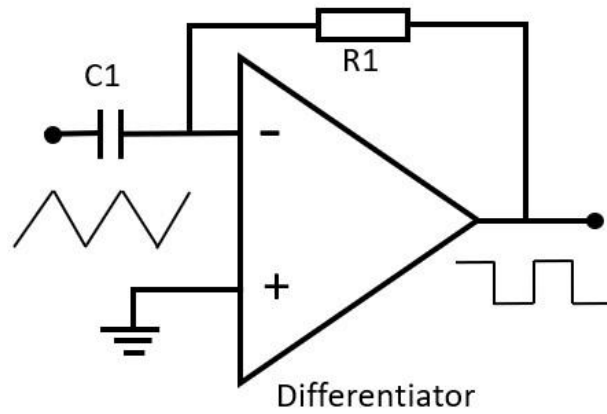

Figure 8: Differentiator.
7. **The Differentiator** is designed so the output of the circuit is proportional to the rate of change to the input. The rate of change is governed by C_1 and R_1 (Figure 8).